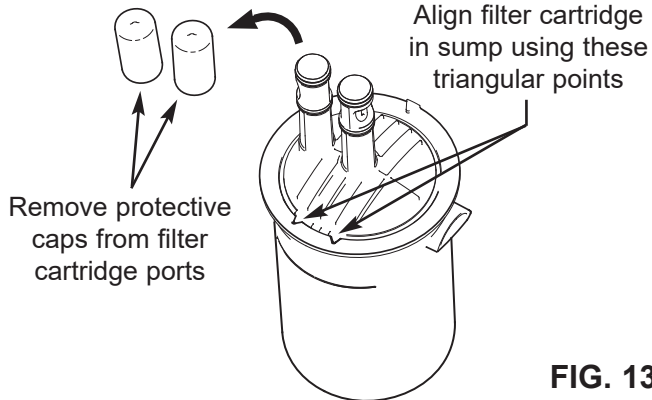

FIG. 13
- Take the new filter cartridge out of its packaging and remove the protective caps from the ports (See Fig. 13).
- Filter cartridges can only be installed in one orientation, and are “keyed” to assure proper fit. Insert the new filter cartridge into the sump, and turn it until the triangular points on its top edge align with, and drop into the corresponding detents in the sump (see Fig. 13).
Cause: Filter cartridge not properly oriented.	Correction: Reorient filter cartridge per Figure 13.